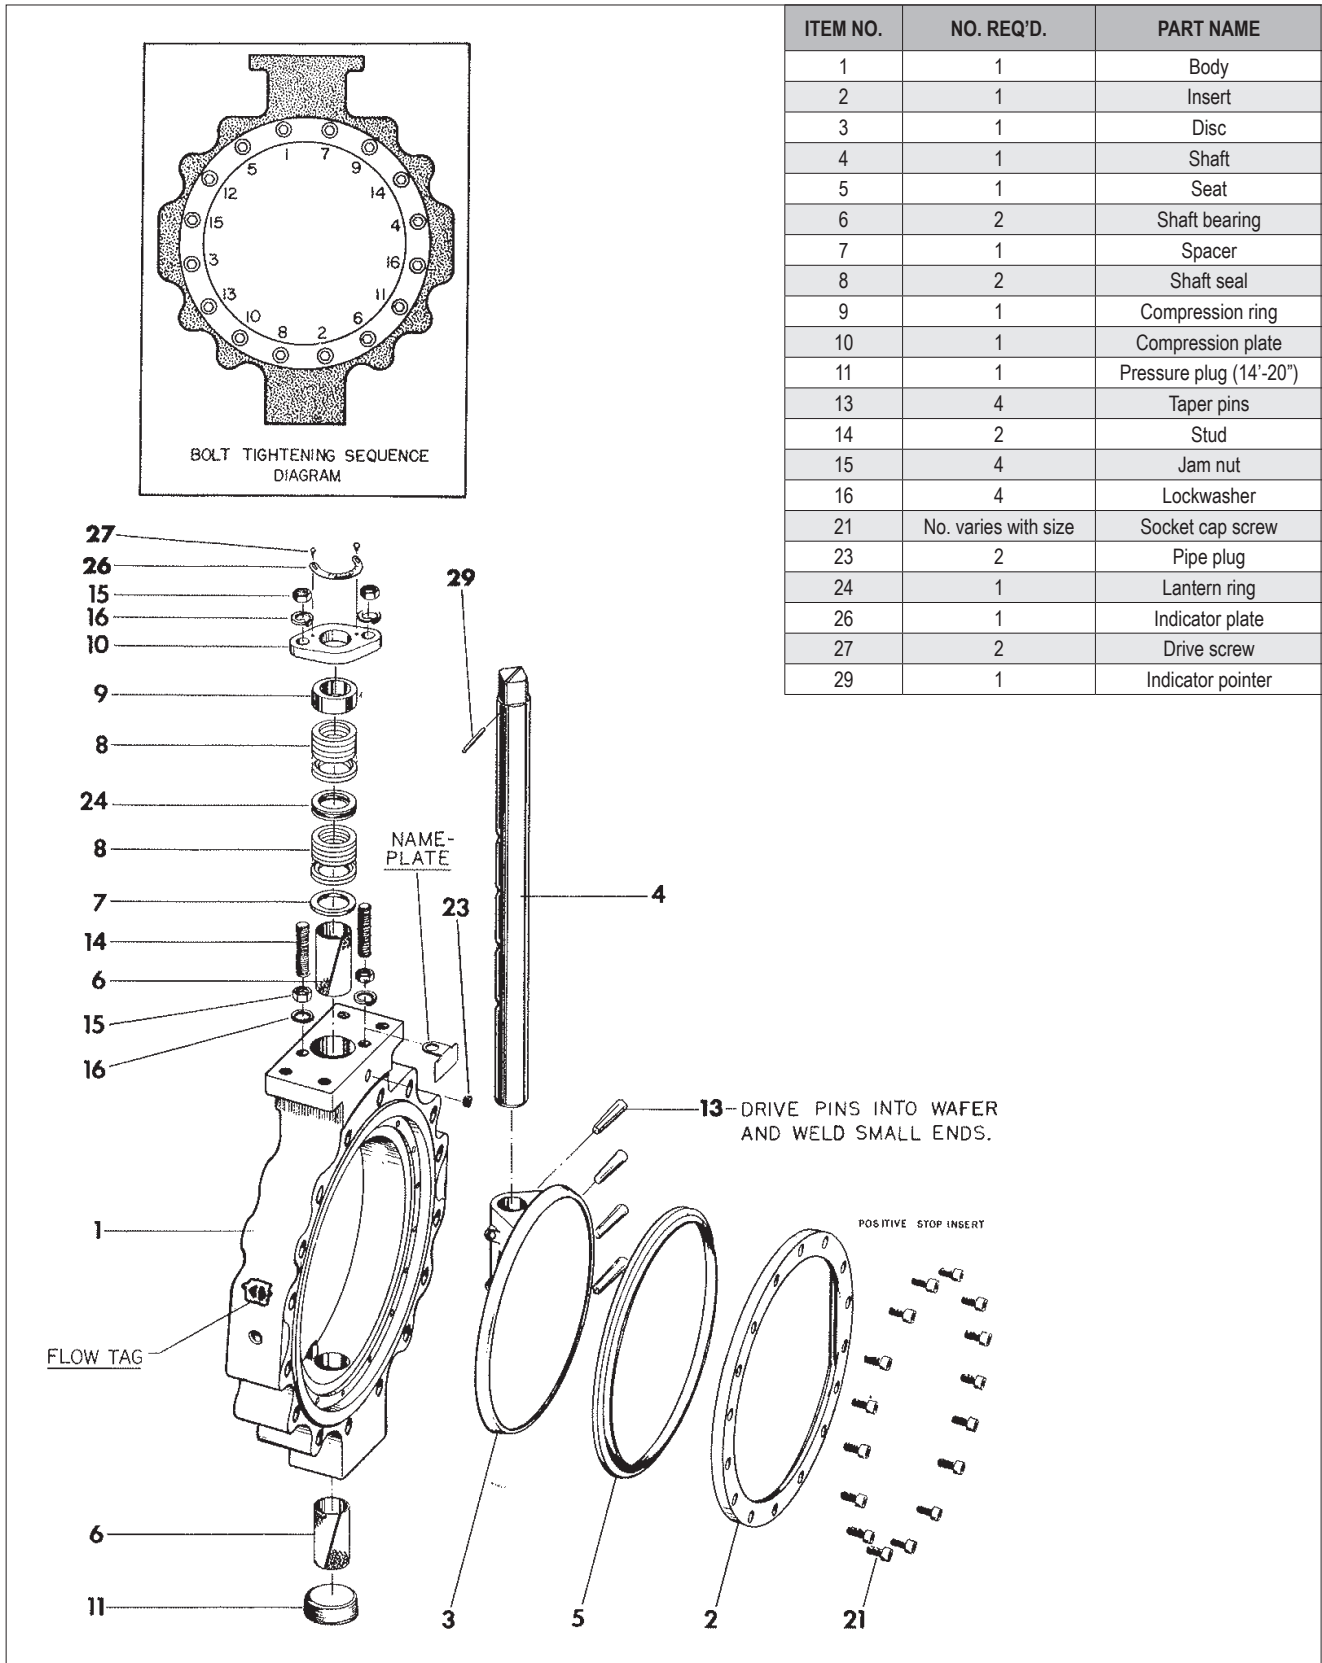

Figure 4 – Parts
To prevent seat damage from over-travel of the disc beyond the closed position (primarily during field mounting of a handle or actuator), a “positive stop” feature has been designed into the latest model *Wafer-Sphere* butterfly valve. The “positive stop” feature also makes it possible to adjust the actuator travel stops in-line. The location of this feature on the body insert is shown in **Fig. 4**.
- IV. **Seat Replacement** (Refer to Fig. 4)
2. With the disc in the open position, remove the insert (2). Using a nylon rod or a rod of other soft material, with a hammer tap from the back, or shaft, side of the valve.
9. The insert should be installed per Figure 4.
1. Remove the wafer pin welds by grinding or machining off the weld. Drive out the taper pins in the direction shown in diagram (Fig. 4).
2. Remove the pressure plug (11).
3. Use a soft rod and hammer to tap the bottom of the shaft (4). Remove it through the top of the valve. **NOTE:** In doing so, and freeing the disc, be careful not to scratch the sealing surface of the disc.
4. Remove the top bearing (6) by pushing it up from the bottom (waterway).
5. Remove the bottom bearing (6) by pushing it down from the top (waterway). **NOTE:** To keep bearings in place, the valve body is staked on the I.D. **DO NOT** try to remove the bearings by pushing them toward the center of the valve.
(Refer to Figure 4)